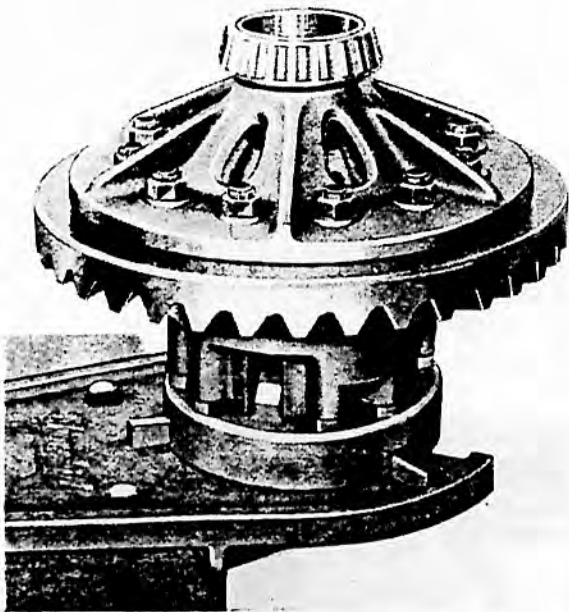

FIG. 6 DIFFERENTIAL CASE ASSEMBLY ON STAND
2. Lift out differential case assembly and position on bench stand MF.9-10 utilising adaptor MF.9 or MF.9M as shown in Fig. 6.